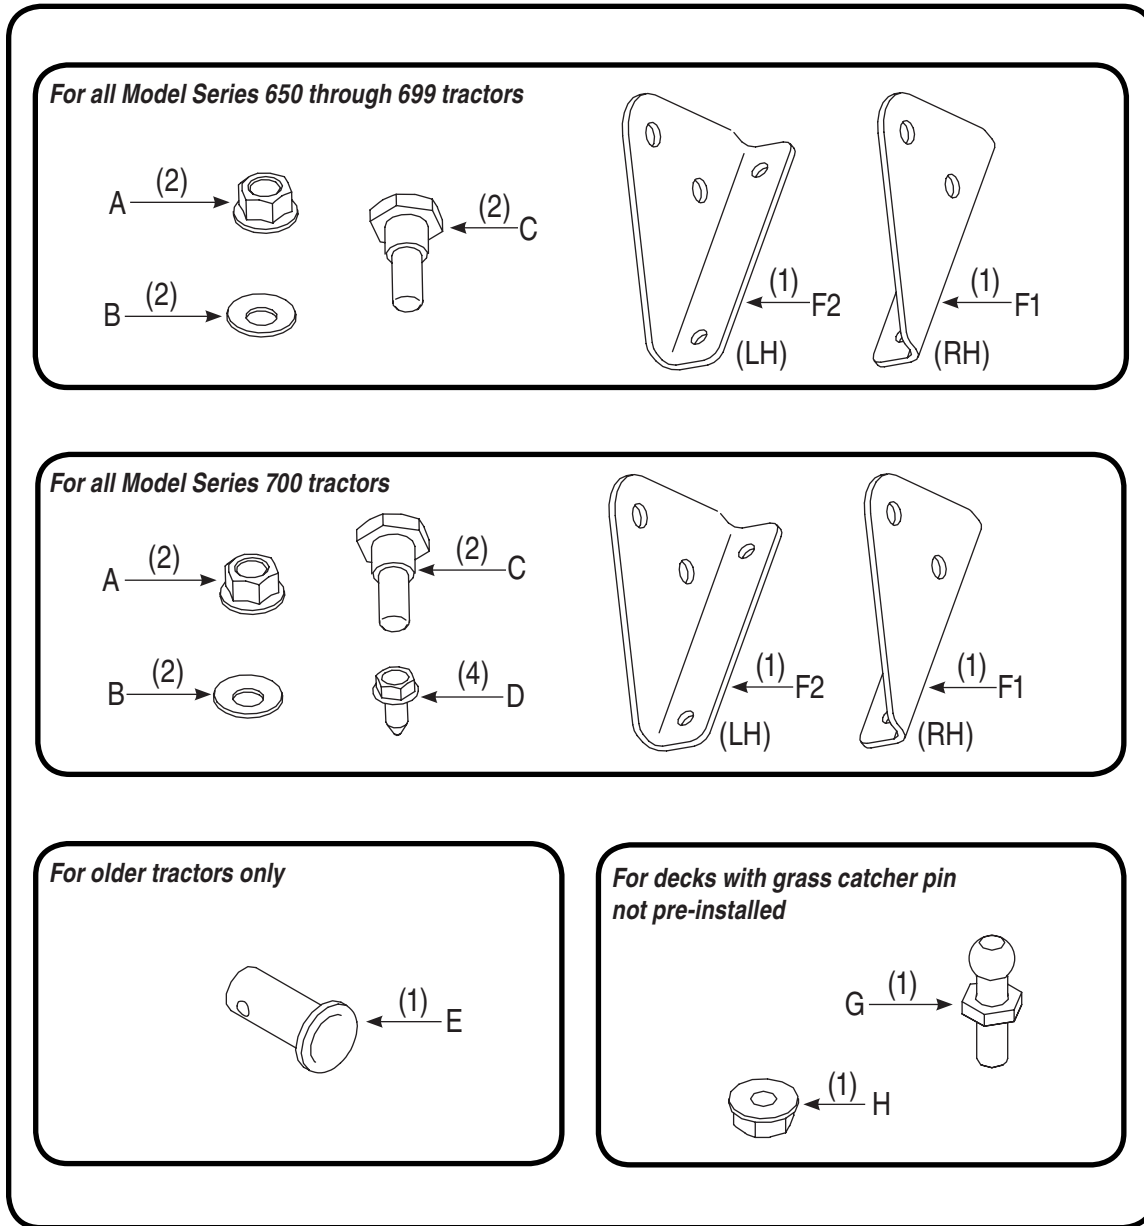
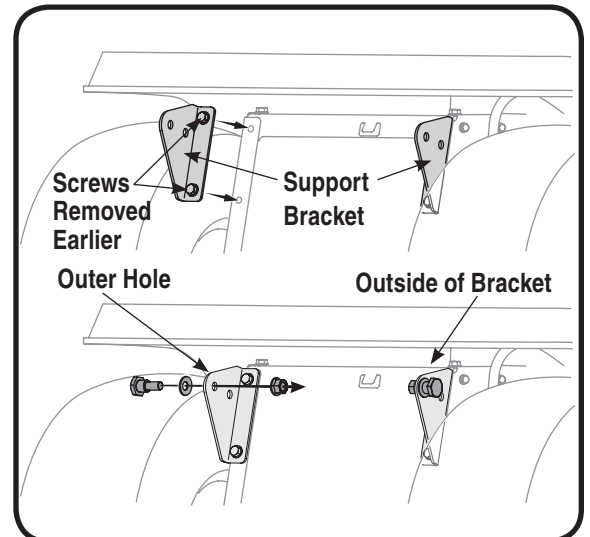
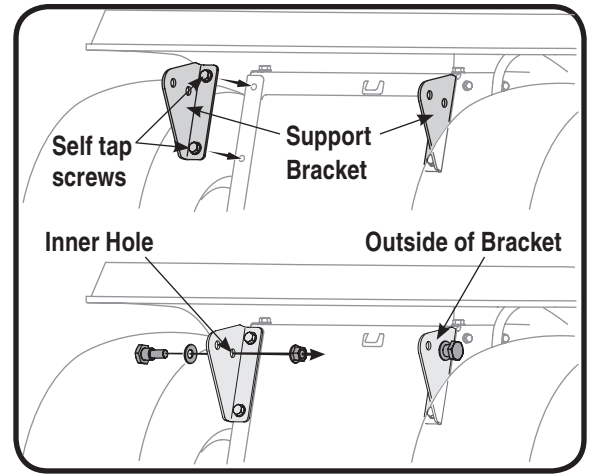

Figure 4
Figure 8
Figure 13
2. Place the right hand grass catcher support bracket (F1 from Figure 4), in position, with the wide end on top and the narrow end pointing down as shown in Figure 8.
3. Secure the support bracket to the tractor frame with two self-tapping screws earlier removed. Refer to Figure 8. Repeat on the other side using part F2 from Figure 4.
4. Insert a shoulder bolt (C in Figure 4) through a bell washer, (B in Figure 4) and insert the bolt from the outside of the bracket through the outer hole on the support bracket. Secure with a nut (A in Figure 4). See Figure 8 for details. Repeat on other side.
NOTE: For some tractor models, this clevis pin is too large. Use a smaller clevis pin (E in Figure 4) in
1. Locate the four self-tapping screws supplied in your hardware pack (D from Figure 4). Attach the right hand grass catcher support bracket (F1 from Figure 4) using two of the supplied screws in position as shown in Figure 13. Place the left hand grass catcher support bracket (F2 from Figure 4) in position and secure with the other two screws.
5. Insert a shoulder bolt (C in Figure 4) through a bell washer, (B in Figure 4) and insert the bolt through the Inner hole (closest to the frame) on the outside of the support bracket. Secure with a nut (A in Figure 4). See Figure 13 for details. Repeat on other side.